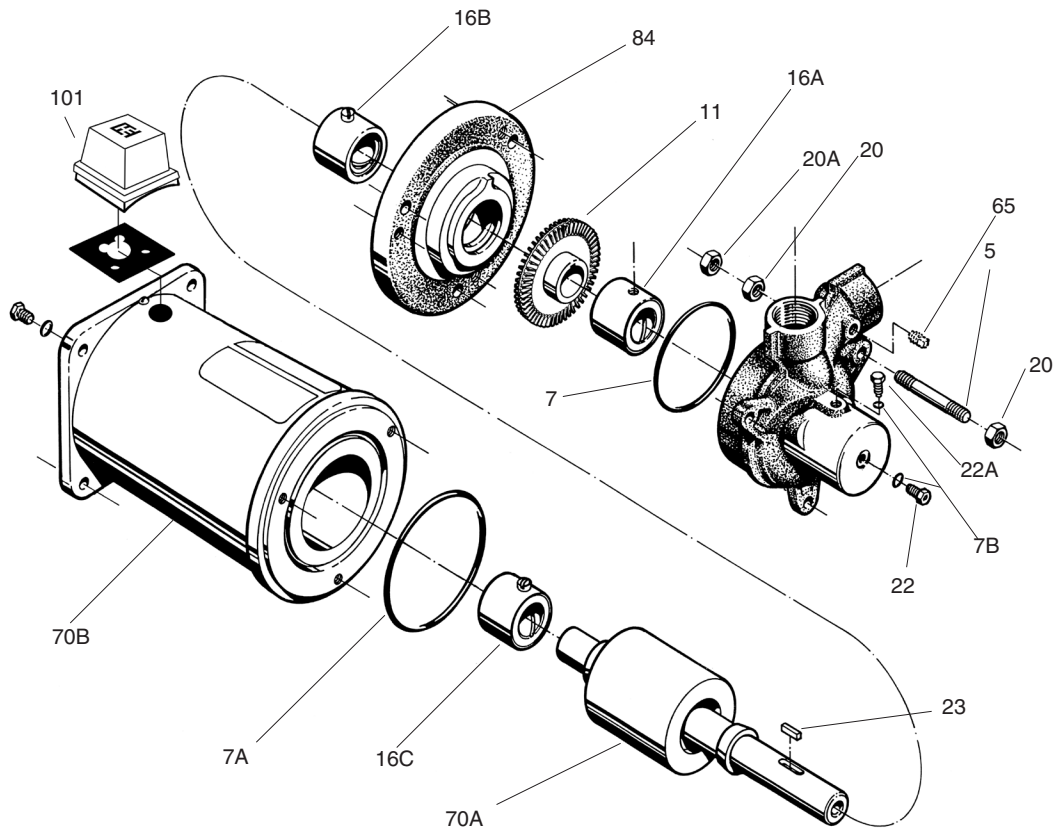

Figure 4-9
An exploded view of the unit, figure 4-9 is provided for referencing the numbers in the following procedures, i.e. (#84), motor bracket.
Refer to figure 4-9 for reference to the numbered parts in the procedures below.
(#20) using a 9/16" wrench and slide off the motor bracket (#84). DO NOT loosen, tighten, or turn the three 3/8-24 setscrews (#15) in the motor bracket, refer to figure 4-9. These are used to set the motor bracket true with the shaft. If these are disturbed, it will be necessary to follow the "Motor Bracket Setup Procedure" when reassembling the pump, as outlined in section 4E Reassembly.
over the three studs (#5) so that the water stop is oriented on the same side as the motor conduit connection, refer to figure 4-9. Be certain to orient the cartridge bearing (#16B) on the shaft so that the screw head slides into its groove in the motor bracket, or the motor bracket will not slide completely onto the motor.
motor bracket. Refer to figure 4-9.
14. Place the pump body over the three studs, aligning the water stop on the motor bracket with the water stop on the body. The pump inlet should be in line with the conduit connection on the motor, refer to figure 4-9. Some